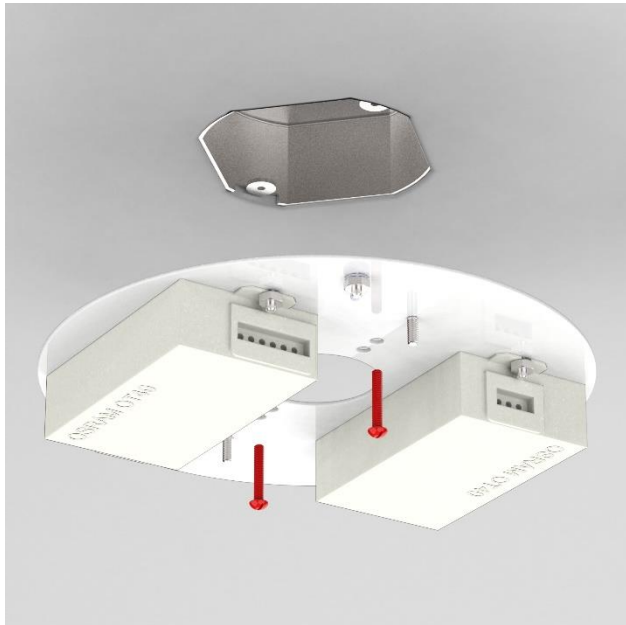

Figure 4
- Secure the electrical mounting disk to the ceiling using the provided mounting screws (Figure 4).